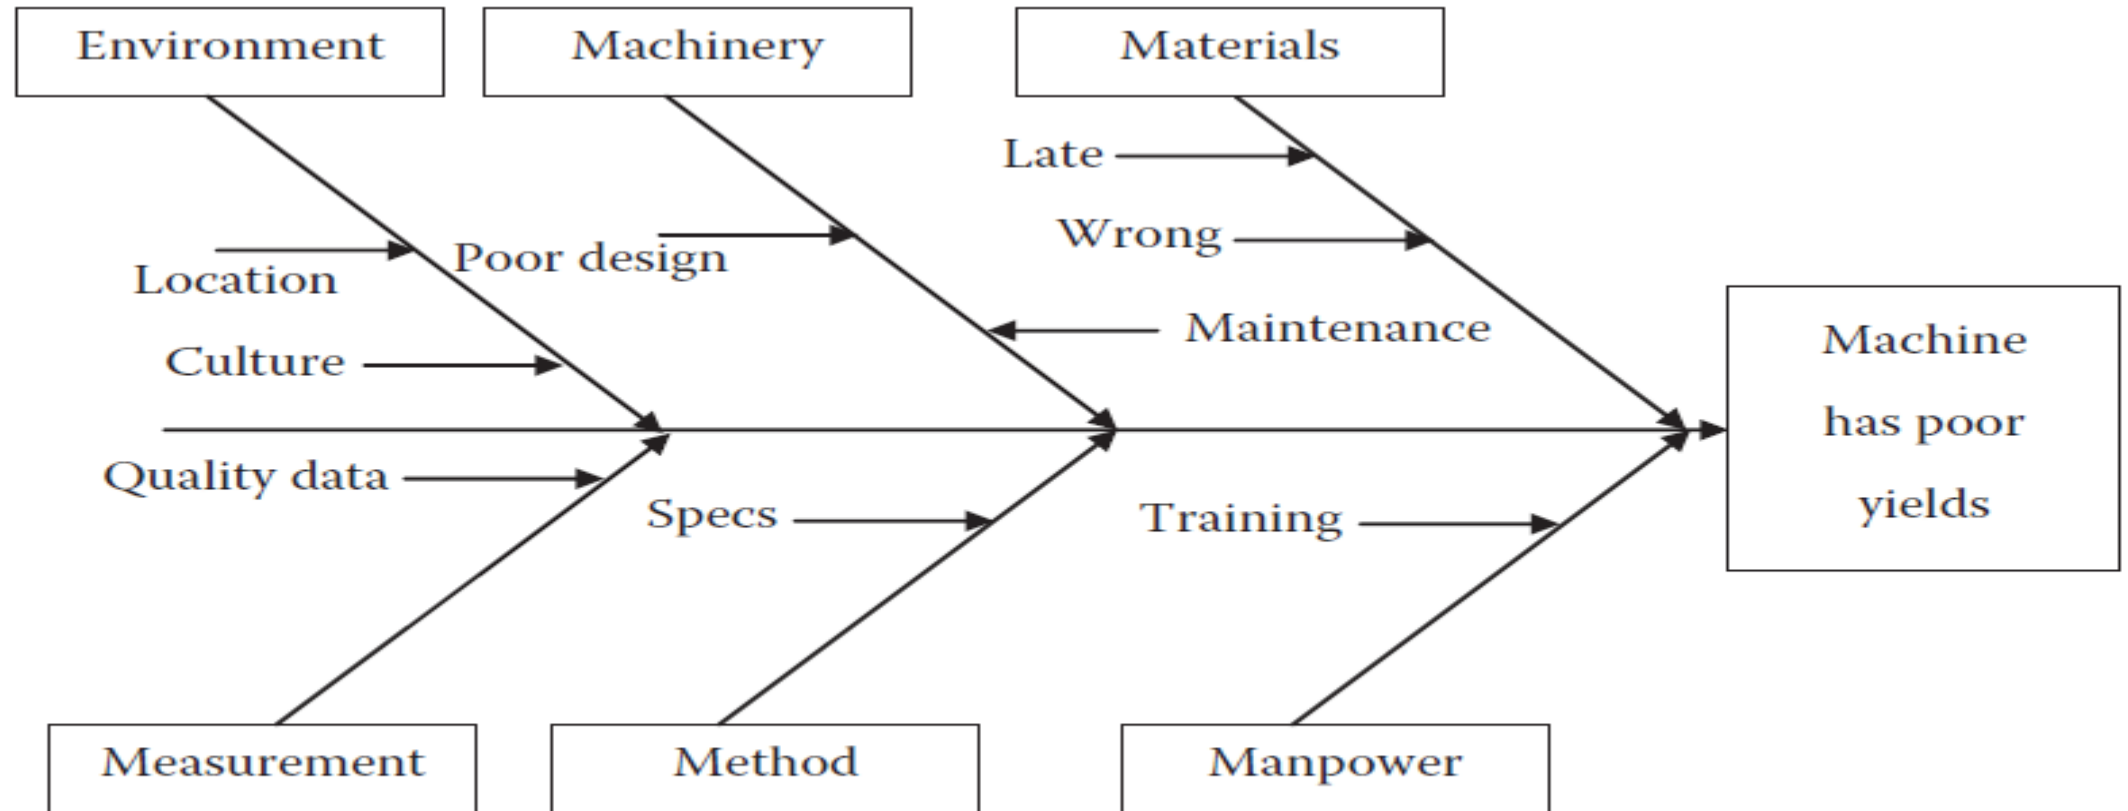

Figure 11.4 Fishbone diagram to examine poor process output.
- ❑ Figure 11.3 displays a sample layout of this diagram and Figure 11.4 displays an example of a filled-out diagram relating to the car case study.